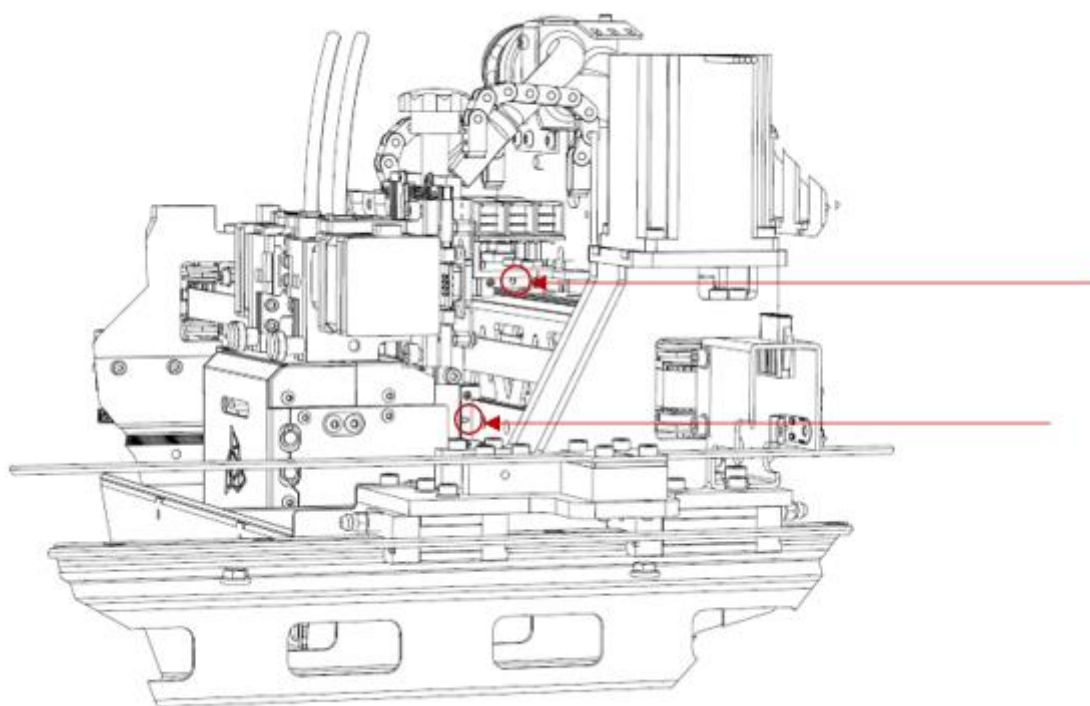

Fig. 82 Lubrication holes on the right side of the print module
11. Squeeze the dispenser for a few seconds to apply oil into the hole in the front carriage and the hole in the top carriage. The oil application points are marked red in Fig. 82.